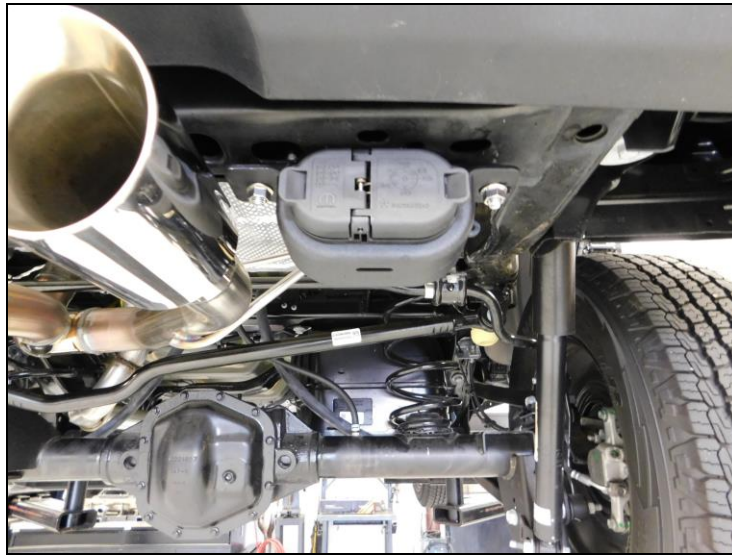

Figure 1
5. Remove the (x2) 16mm bolts securing the trailer lighting plug assembly to the bumper support on the left side of the trailer hitch. Un-clip the first (x2) harness retainers to allow the lighting plug assembly to be relocated to the right side of the trailer hitch (**Figure 1**).
9. Push the lighting plug assembly up to the bumper and tighten the (x2) bolts at the trailer hitch (**Figure 1**).